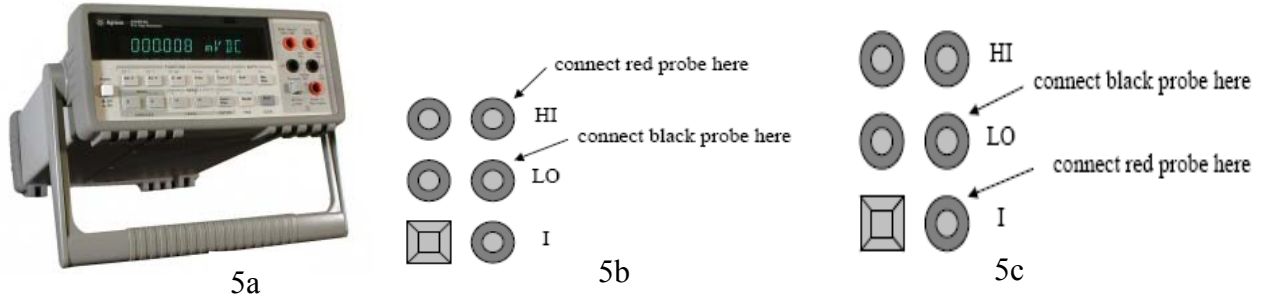

Figure 5: HP34401A Digital Multimeter(a), Measuring Voltage (b), Measuring Current(c)
We will be working with DC (direct current) voltage (V) and current (A). To measure the voltage, connect the leads as shown in Figure 5 (b). To measure current, connect the leads shown in Figure 5 (c) and then press the “Shift” key + “DC V” key. To measure resistance, use the same configuration for leads as measuring voltage; however press the 2W key on the DMM to change to measuring in resistance units.